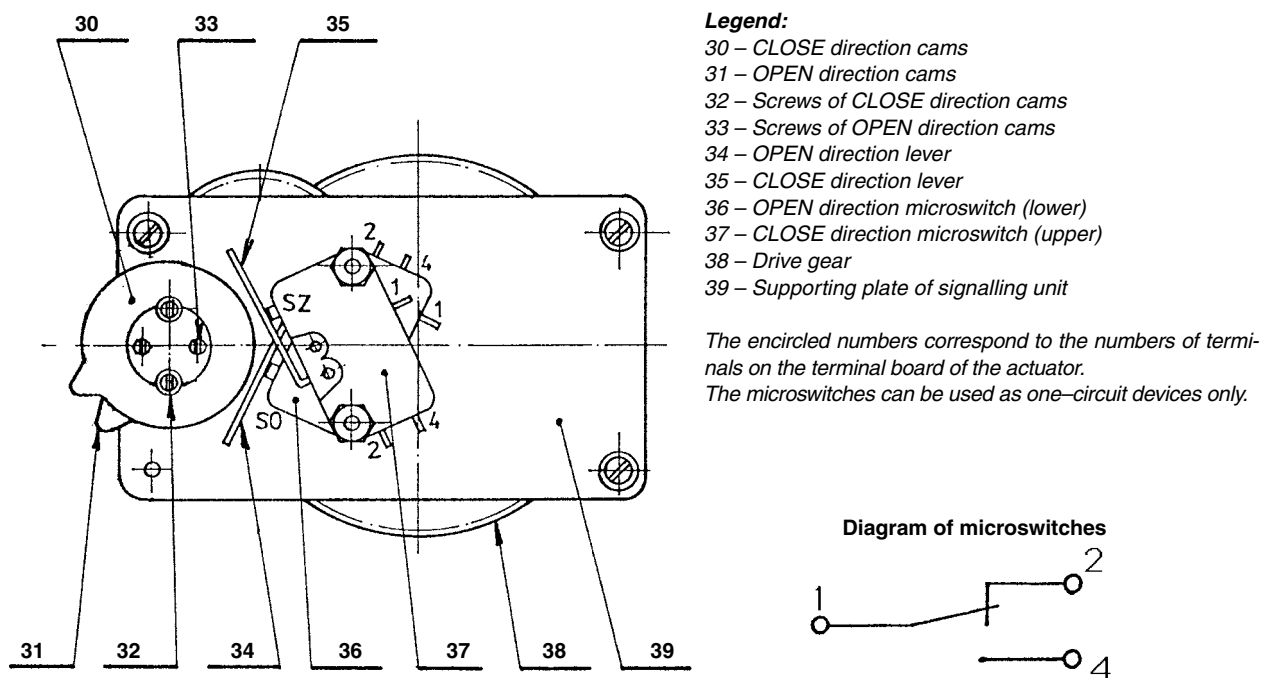

Fig. 4 - Signalling unit
b) Signalling unit (Fig. 4)
transmitter is sensed. The arrangement of cams and microswitches of the signalling unit is shown in Fig. 4. Shoulders of the cams 30 or 31 deflect the levers 34 and 35, which in turn control the microswitches 36 (SO) and 37 (SZ). When adjusting the signalling and position-limit switches and the position transmitter, the output shaft of the actuator should be moved to the position in which changing-over of the microswitches should take place or the required position of the position transmitter cursor should be reached. When adjusting the signalling switches, the following procedure should be used: First, loosen the screws 32 (for the CLOSE signalling switch SZ) or 33 (for the OPEN signalling switch SO), as shown in Fig. 4. Then, turn the cam 30 or 31 in the direction of the arrowhead till the microswitch closes. In this position, hold the cams and retighten the lock screws.